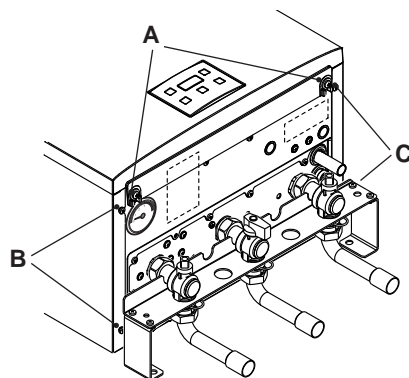
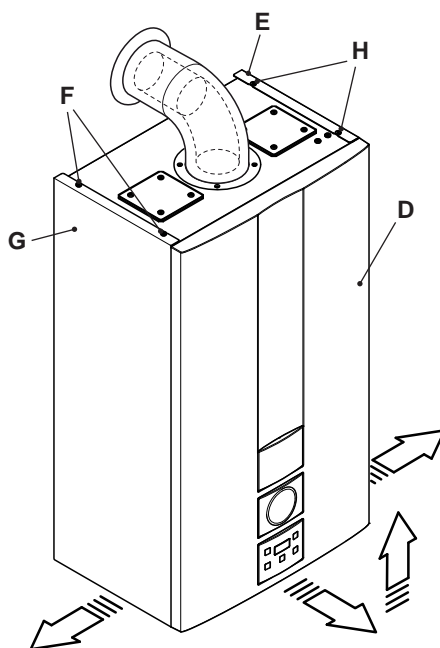

Fig. 9.1
Fig. 9.2
- Unscrew screws A and remove the front panel D by pulling it and pushing it towards the top so that it is freed from the top housings (Fig. 9.1 and Fig. 9.2).
Loosen screws " B - F " and " C - H " in Fig. 9.1 and remove the two side panels E and G by pulling towards the outside.